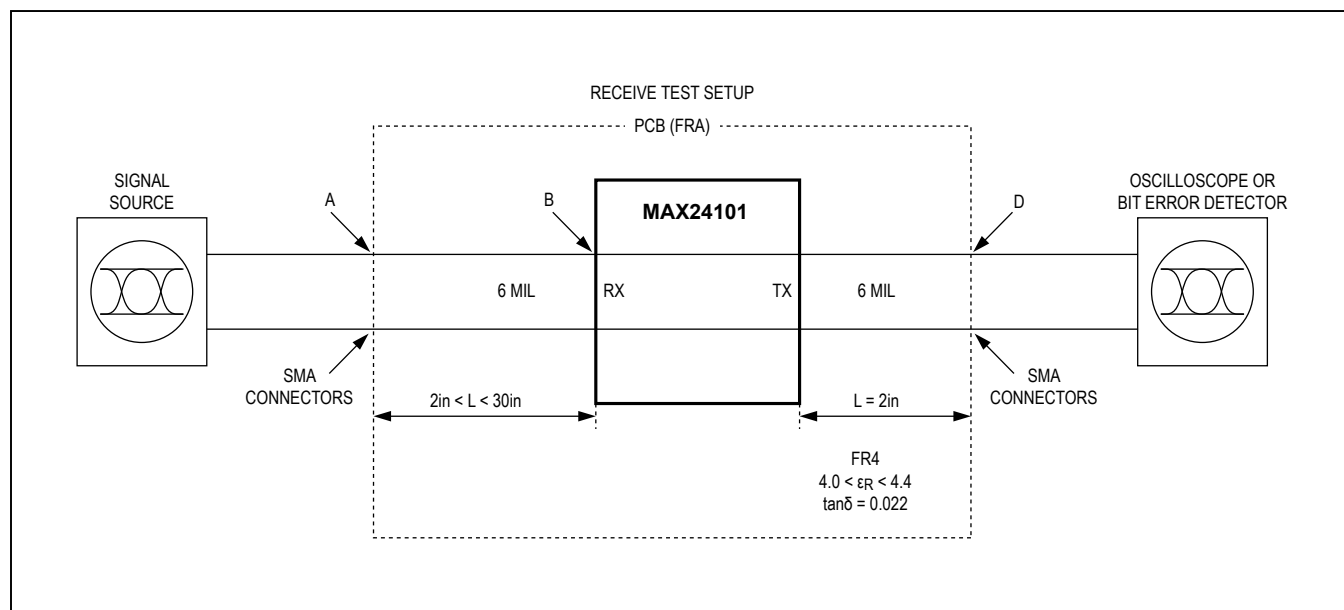

Figure 2. Receiver Test Setup (Points Labeled A, B, and D are Referenced for AC Parameter Test Conditions)
**Note 4:** Measured with circuit board loss optimized for best DJ. Residual jitter is the difference in deterministic jitter between the reference data source and device output.  $DJ_{RESIDUAL} = DJ_{OUTPUT} - DJ_{SOURCE}$ . The deterministic jitter at the output of the transmission line must be from media induced loss. Measured at point D in Figure 2. Test Patter: 66 Zeroes, 1010, PRBS7, 66 ones, 0101 Inverted PRBS7.